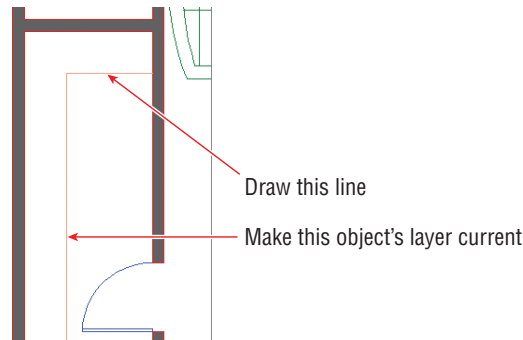

FIGURE 6.8 Drawing a line after using the Make Object's Layer Current tool
11. Click the Line tool on the Draw panel, and draw the line shown in Figure 6.8. Press Esc to end the LINE command.